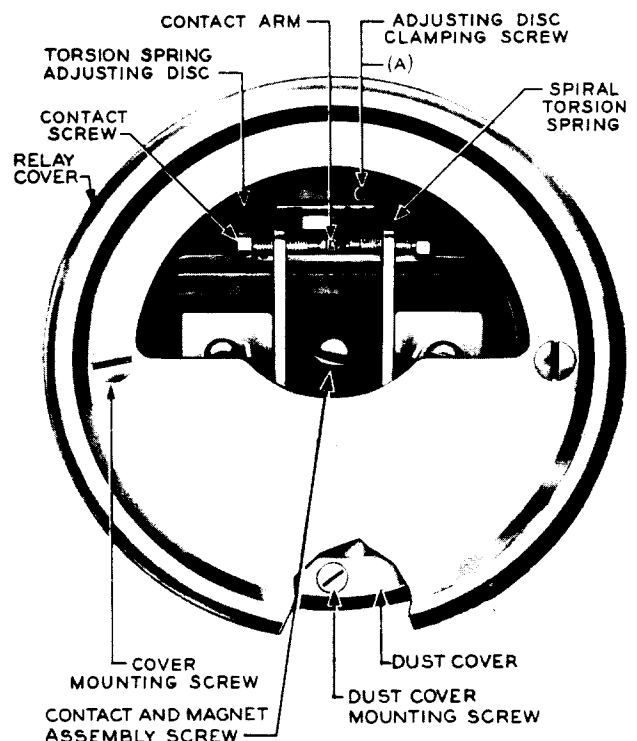

Fig. 2 - Western Electric 261 Type - Front View
2.03 Tightness of Adjusting Disc Clamping Screws (Western Electric 260 and 261 types and Weston models): Fig. 2(A), 3(B), and 4(B) — The adjusting disc clamping screws shall be sufficiently tight to hold the torsion spring adjusting disc in its adjusted position.